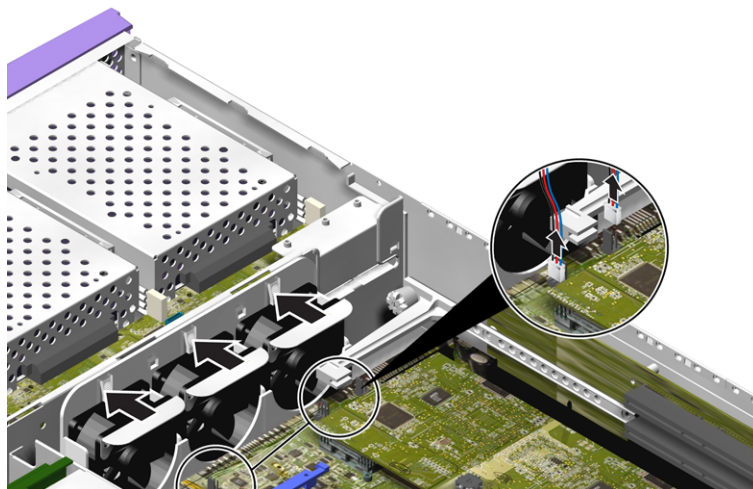

FIGURE 1-17 Disconnecting a Fan Power Cable (Sun Fire V240 Server)
2. **Disconnect the fan’s power cable from the system board** (FIGURE 1-17).